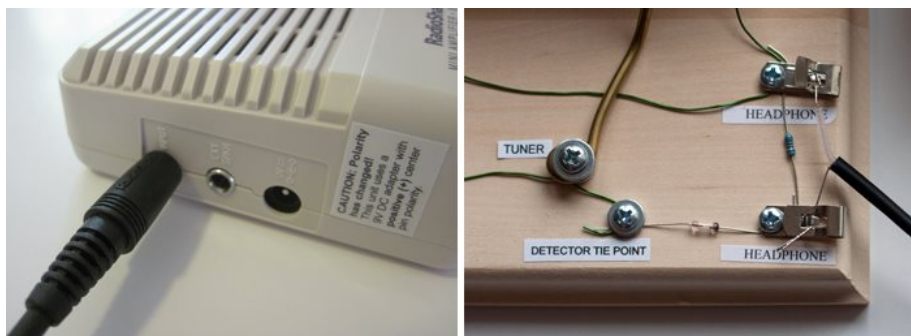

Figure 18. Attach the split ends of your audio cable to the two "HEADPHONE" Fahnestock clips, and plug the other end into the audio amplifier's "Input" jack.
- b. Insert the $\frac{1}{8}$ inch plug end of your audio cable into the port labeled "Input" on the audio amplifier, as shown in Figure 18.
- c. Connect the split ends of the audio cable to the two "HEADPHONE" Fahnestock clips, as shown in Figure 18. It does not matter which of the two cables you plug into which clip.